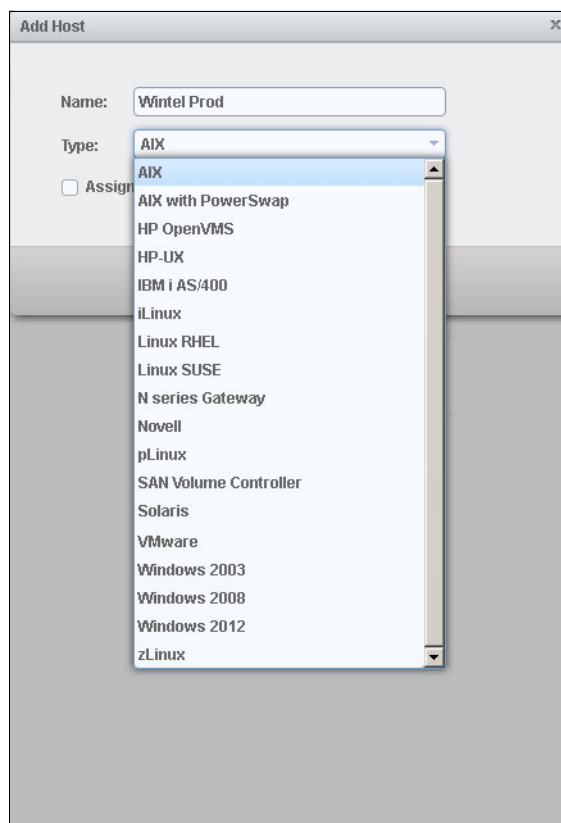

Figure 11-53 Add Host window that shows all available host types
7. The Add Hosts window opens, as shown in Figure 11-53. Specify the following items:
- Type: This item represents the operating system of the host to add. Figure 11-53 shows the available host types.